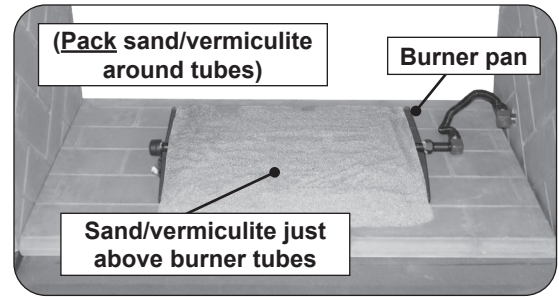

Fig. 12-1 Place sand/vermiculite
- Partially fill the burner pan with the sand/vermiculite until it rests at a level just above the burner tubes as shown in Fig. 12-1.